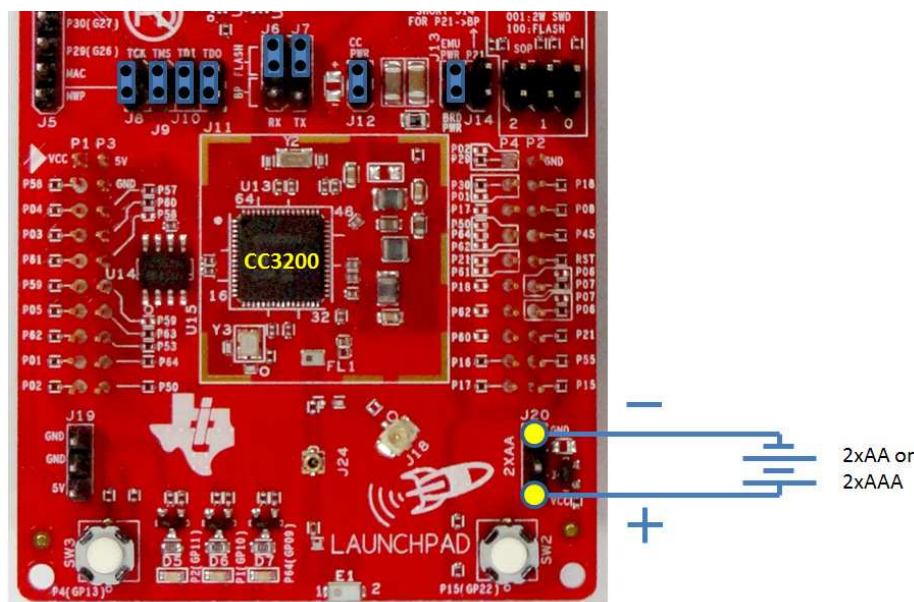

Figure 10. Battery Power
2. Plug-in the battery pack on J20 with correct polarity (see Figure 10).